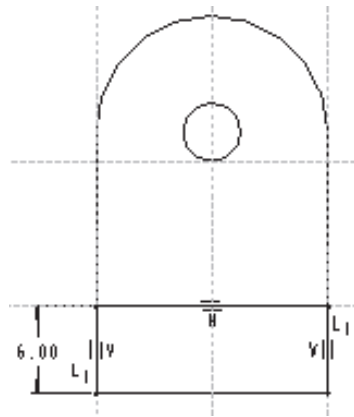

Figure 4-48 Sketch for the second feature
1. Draw the sketch as shown in Figure 4-48.
Since the **Intent Manager** is on by default, therefore, the sketch is automatically dimensioned and some weak dimensions are assigned to it. Add the required constraints and modify the weak dimensions as shown in Figure 4-48.